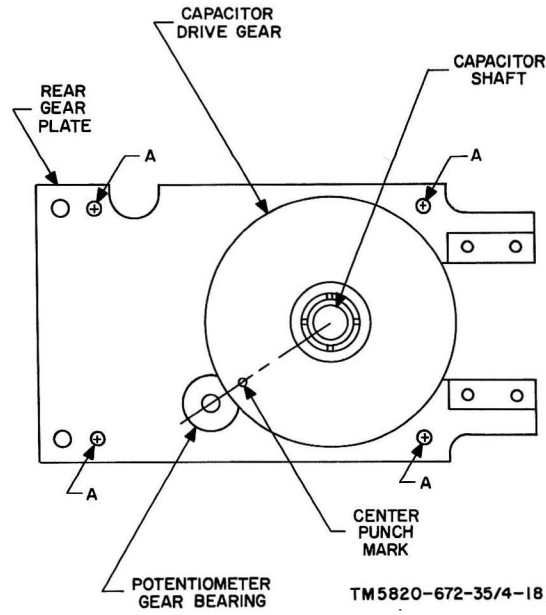
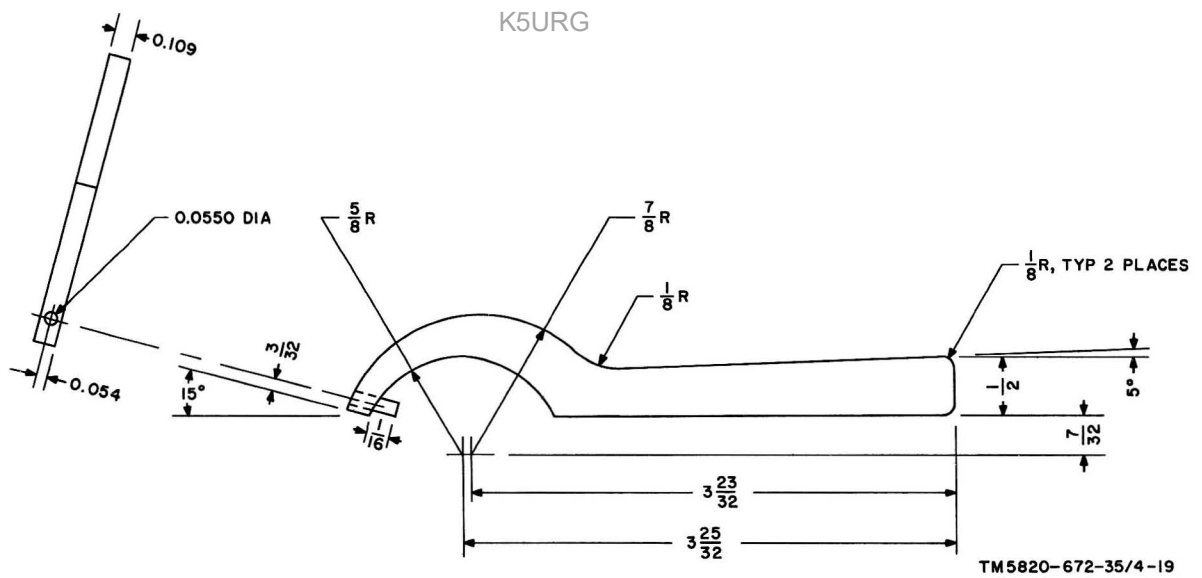

Figure 3-16. Capacitor drive gear alignment diagram.
Figure 3-17. Capacitor drive gear adjusting wrench.
- (1) Remove variable tuning capacitor C1 and gear train assembly from F-1138/GRC chassis.
- (2) Loosen four screws in rear gear plate marked A in figure 3-16.
- (3) Use tool shown in figure 3-17 to rotate eccentric collar to provide minimum backlash. ^{K5URG}
- (4) Tighten four screws in rear gear plate and reassemble.
- (5) Perform frequency band alignment procedures as outlined in paragraphs 3-11 through 3-14.
- (6) Mount rear gear plate with screws marked A in figure 3-16. Leave screws loose.
- (7) Rotate eccentric collar, using tool shown in figure 3-17 so thickest part of collar is nearest potentiometer gear bearing.
- (8) Rotate capacitor C1 rotor until fully meshed with stator.
- (9) Mount capacitor drive gear with punch-mark nearest potentiometer drive gear bearing as shown in figure 3-16, with 1/32-inch clearance between gear and gear plate.
- (10) Mount follow-potentiometer R19 to front gear plate and rotate potentiometer drive gear fully counterclockwise (facing shaft).
(11) Rotate tuning capacitor C1 so upper edges of rotor blades are flush with upper edges of stator blades.
(12) Assemble front gear plate on rear gear plate, being careful not to disturb setting of C1 or R19.